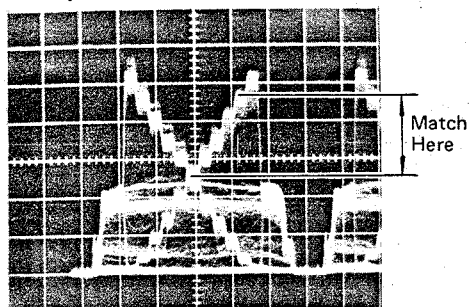

Fig. 6-4-42
- Adjust RED TRACKING-2 VR311 so that the R signal matches the Y_L signal in the 8th~9th step of gray scale waveform. (Fig. 6-4-42)